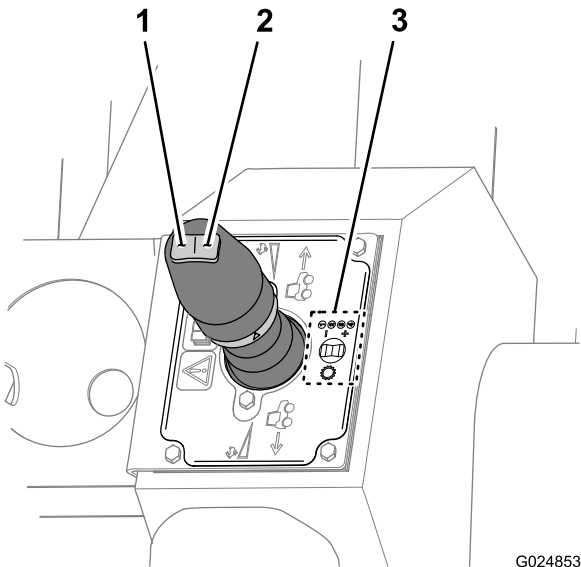

Figure 48
- To select a higher gear, press the up-shift (right) button on the rocker switch (Figure 48).
- To select a lower gear, press the down-shift (left) button on the rocker switch (Figure 48).